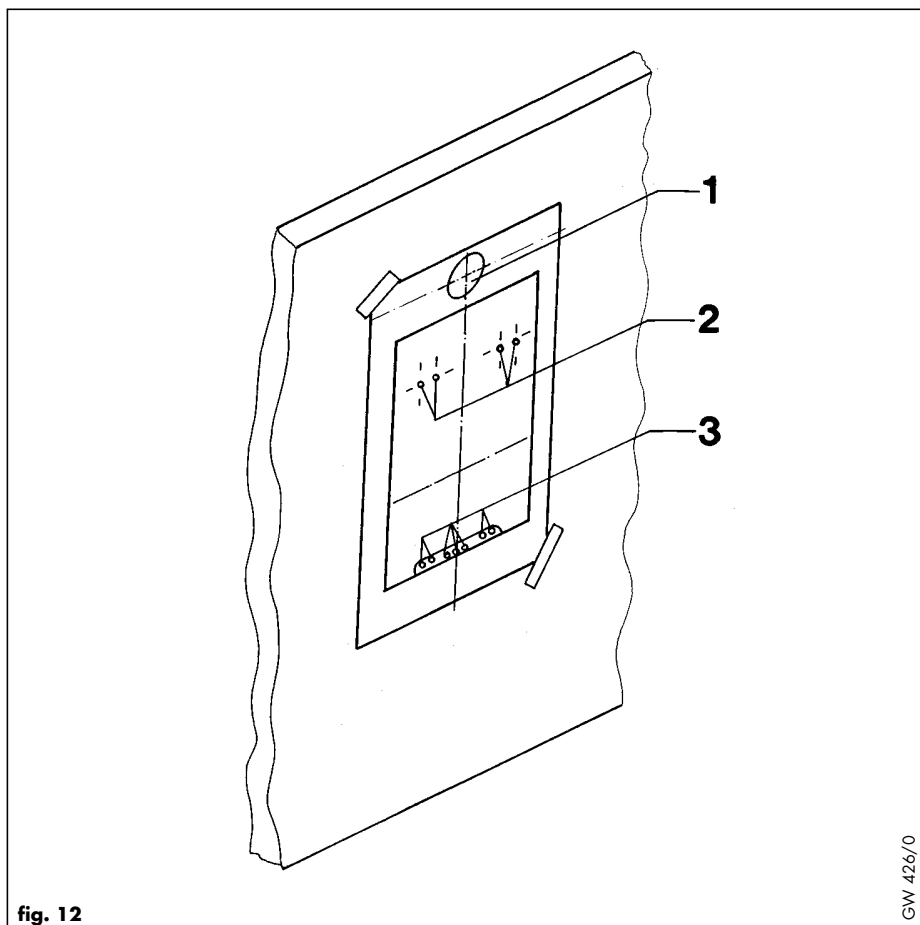

fig. 12
4.3.2 Using the boiler template (fig. 12)
Mark the position of the centre of the flue duct and its circumference, e.g. by drilling through the template (1, fig. 12).